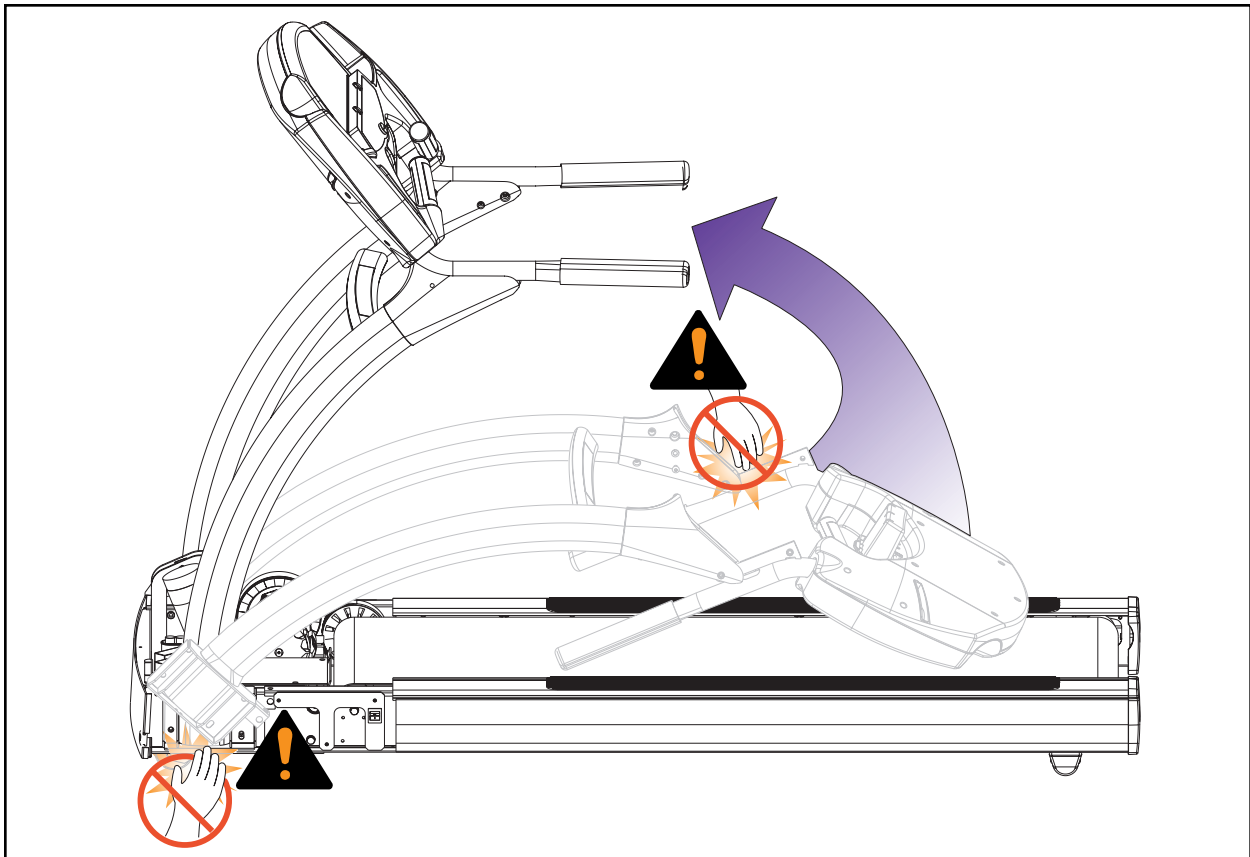

Figure 3
! CAUTION: Do not pinch your hands or other body parts while pivoting the treadmill. See Figure 3.
- C.** Raise the console and uprights into position (they will pivot into place). **NOTE:** Confirm that no cables are pinched while raising the unit. See Figure 3.